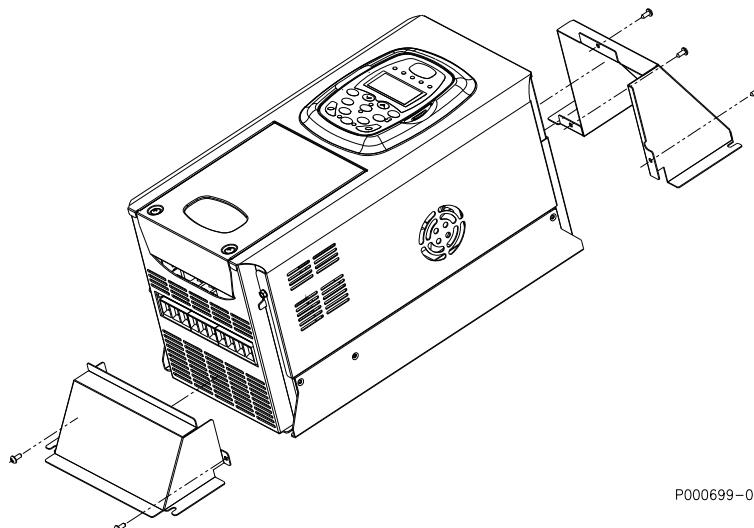

Figure 15: Fittings for the through-panel assembly for SINUS K S12.
For this inverter size, no actual through-panel assembly is used, but the air flow of the power section is segregated from the air flow of the control section by installing two optional mechanical parts to be assembled with five (5) M4 self-forming screws (see Figure 15: Fittings for the through-panel assembly for SINUS K S12.).